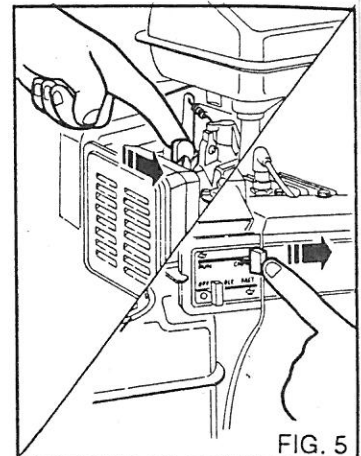

FIG. 5
3) Set the starter lever in **CLOSE** position (Honda motor) or **CHOKE** position (B&S motor) (fig. 5).